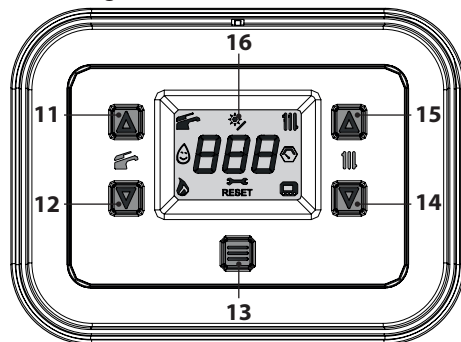

Figure 3.3
If the room temperature is too high, do not adjust the radiator cocks but decrease the heating temperature setting using the room thermostat or the heating control buttons 14 and 15 (Figure 3.3).
To restore operation, press the reset button 13 (Figure 3.3) on the boiler control panel.
After three reset attempts made by pressing the reset key 13 (Figure 3.3), code "E91" and the symbol  (Figure 3.6) appear on the LCD display. The boiler is in lockout mode.
To restore boiler operation, disconnect the electrical power supply. Then, reconnect it and press buttons 11, 12 and 13 (Figure 3.3) on the boiler control panel at the same time for at least 5s.